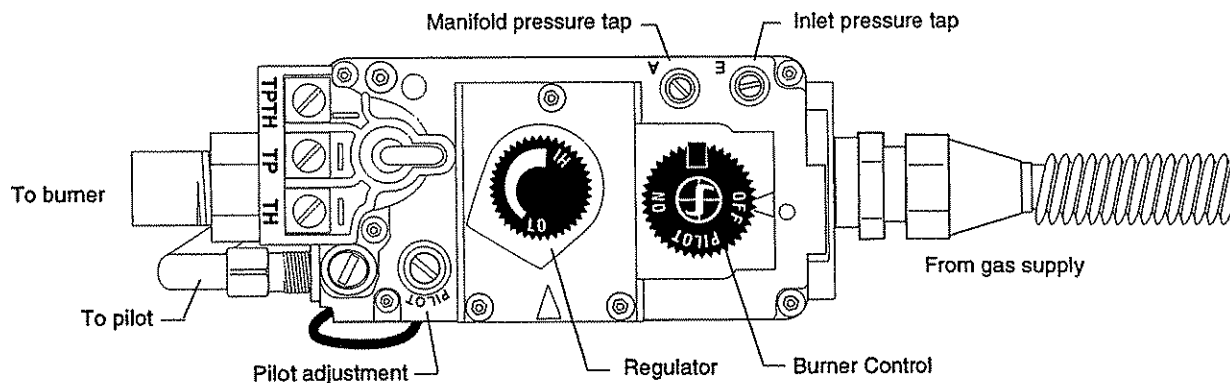

Figure 17. The S.I.T. Control Valve, (front panel removed).
1. Connect the gas supply line to the inlet at the right side of the control valve as required by local codes. This may be a flexible line, (not supplied), or hard plumbing. Fig. 17.